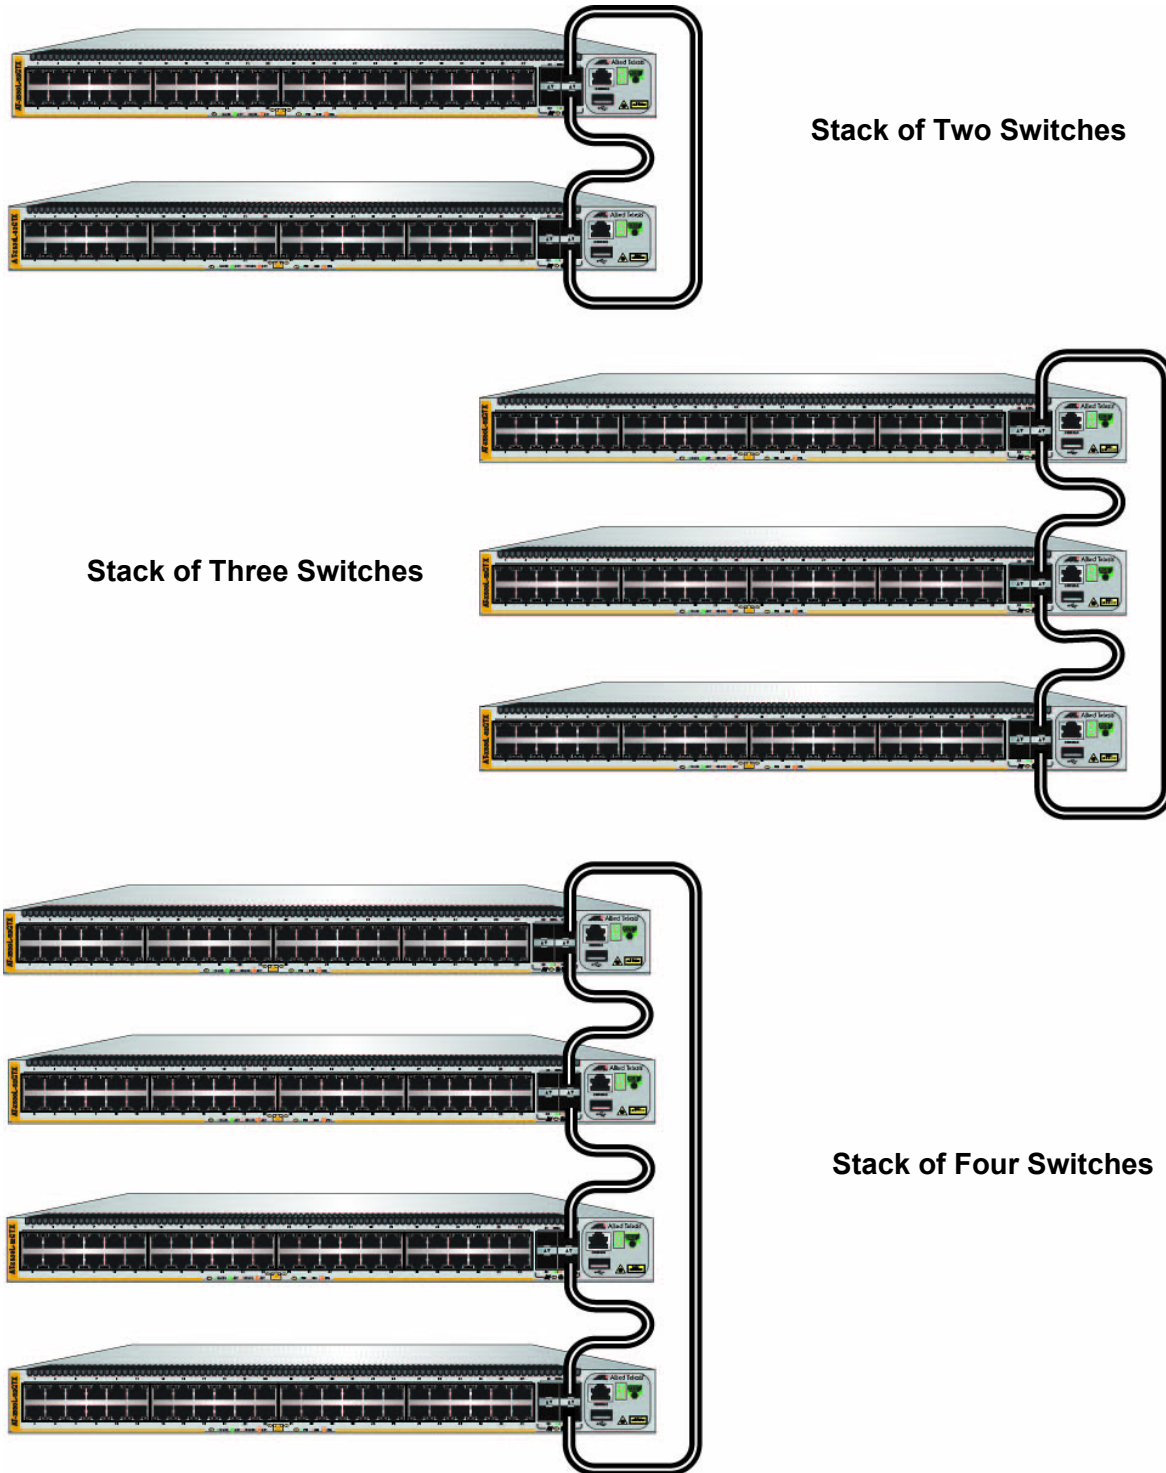

Figure 24. Valid Stack Trunk Using Default Stacking Ports 51 to 52 on 52-Port x530L Switches
- See Figure 24 on page 66 for Valid Stack Trunk Using Default Stacking Ports 51 to 52 on 52-Port x530L Switches.
Figure 24 shows examples of stack trunks for two, three, and four switches, using the default stacking ports 51 and 52 on 52-port x530L-52GPX and x530L-52GTX switches.